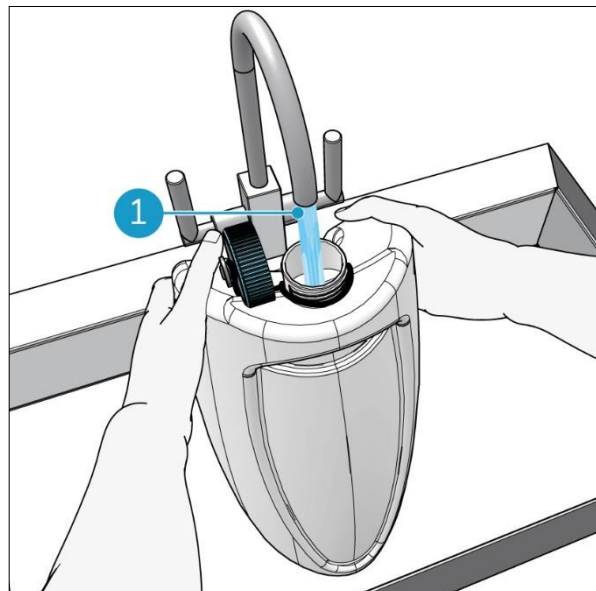

Figure 34
11. Fill the recovery tank with approximately 1 liter of tap water (Figure 34, pos 1).